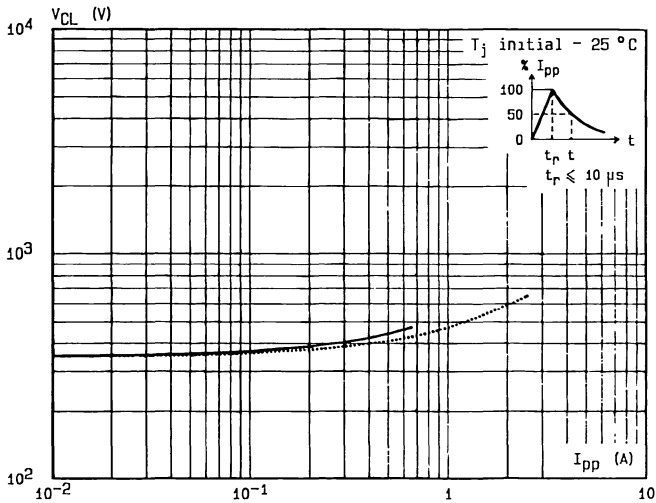

Fig.2 - Clamping voltage versus peak pulse current
Note : The curves of the figure 2 are specified for a junction temperature of $25\text{ }^\circ\text{C}$ before surge. The given results may be extrapolated for other junction temperatures by using the following formula : $\Delta V (BR) = \alpha_T (V (BR)) \times [T_j - 25] \times V (BR)$